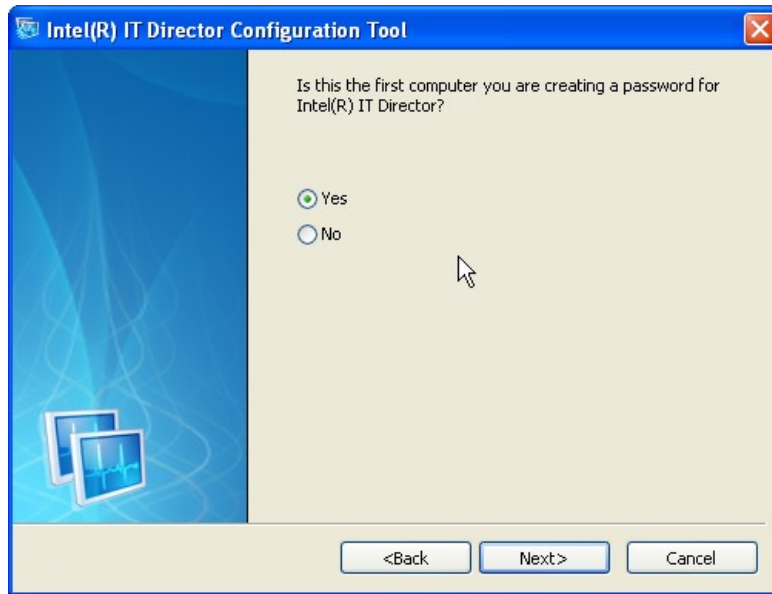

Figure 6-37: IT Director – Creating Password
Step 17: Select whether this is the first computer you are creating a password for IT Director. (**Figure 6-37**).